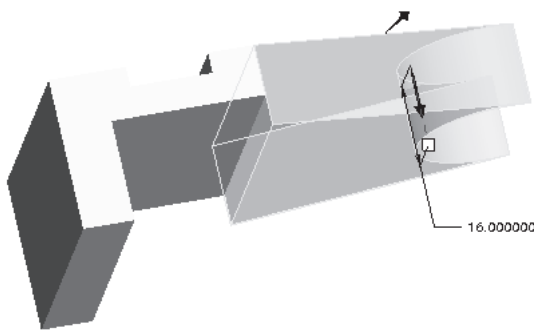

Figure 5-95 Arrow showing the direction of material addition
2. Choose the **Done** button. The **Extrude** dashboard is enabled. Use the middle mouse button to orient the model, as shown in Figure 5-95.